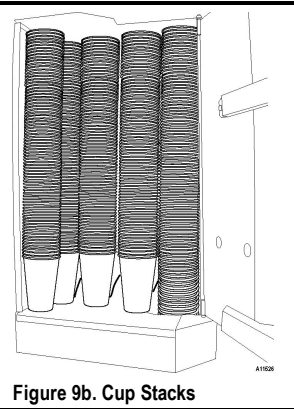

Figure 9b. Cup Stacks
2. The cup compartment can have a total of five (5) cup stacks. Load the compartment with cups starting with the first stack in the cup dispenser mechanism followed by three (3) additional cup stacks. See **Figure 9b**. The cup-stacks must be aligned with the top and bottom spirals. Add the fifth cup stack directly in front of the fourth cup stack and place it tight against the left side wall of the compartment.